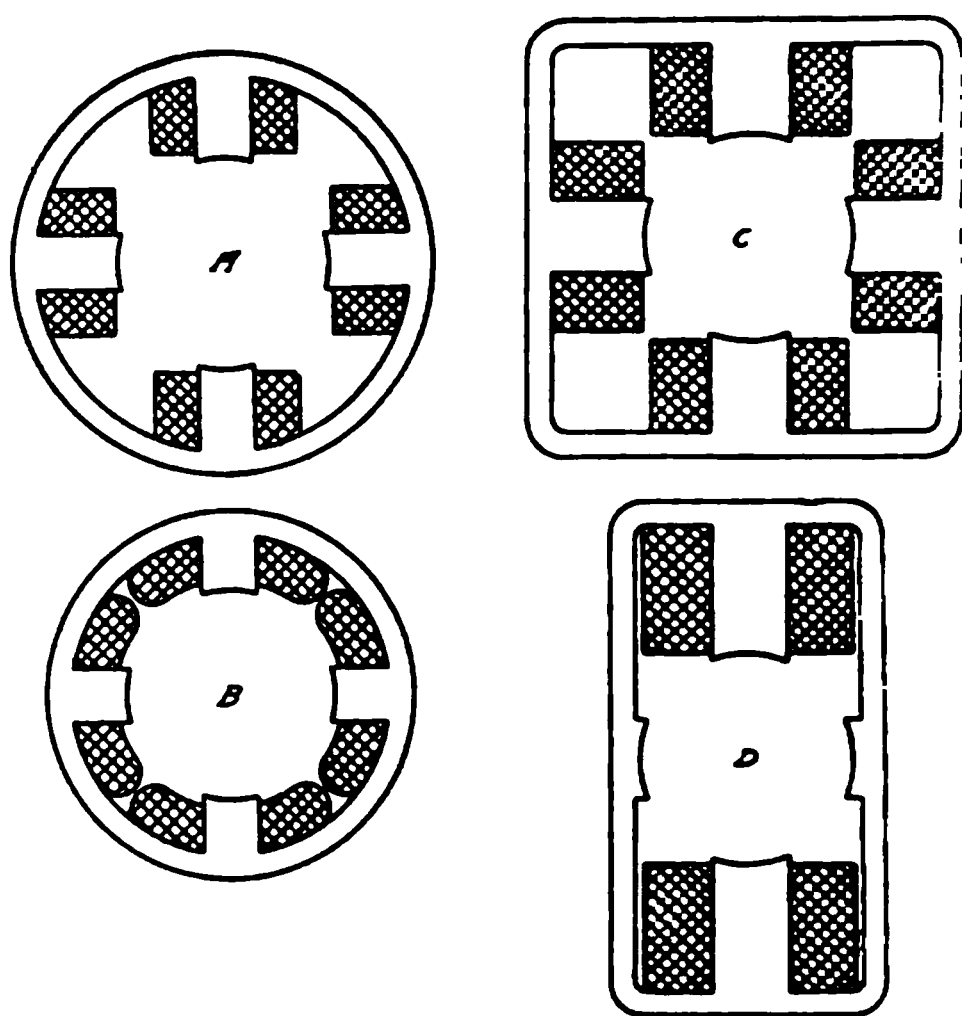

Fig. 154. Cross-Sections Typical Electric Starting Motor
**Standard Designs.** Briefly stated, the electrical requirements demand a concentrated and correctly proportioned mass of iron and copper in the minimum space. The cross-sections, Fig. 154, show how these requirements have been met in various instances. As the motor is only required to operate for very short periods, both the conductors and insulation can be kept down in size as compared with a motor designed to run constantly under heavy load.
shortest magnetic circuit. Consequently, shallow windings with big flat pole pieces are more efficient than the reverse of this form, particularly as air space in the magnetic field lessens its intensity and calls for a heavier winding to magnetize the extra weight of metal to the same degree. Hence, the type represented by *B*, Fig. 154, is the most efficient, in theory at least, of the four forms illustrated.